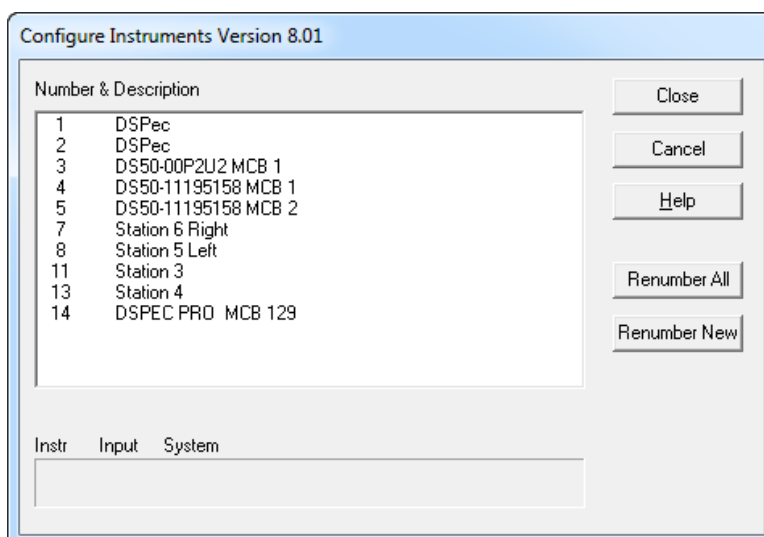

Figure 10. MCB Numbering and Descriptions.
- 3) To start the software, type `mcb` in the "Search programs and files" box on the Windows Start menu, then click the **MCB Configuration** search result; or open the Windows Start menu and click **MAESTRO**, then **MCB Configuration**. The MCB Configuration program will locate all of the powered-on ORTEC MCBs on the local computer and the network, and display the list of instruments found (the *Master Instrument List*; Fig. 10). If you wish, you may enter customized instrument ID numbers and descriptions (Section 2.2.4.2). When you close the dialog, any changes you have made to an ID number or description will be written back to the corresponding MCB.